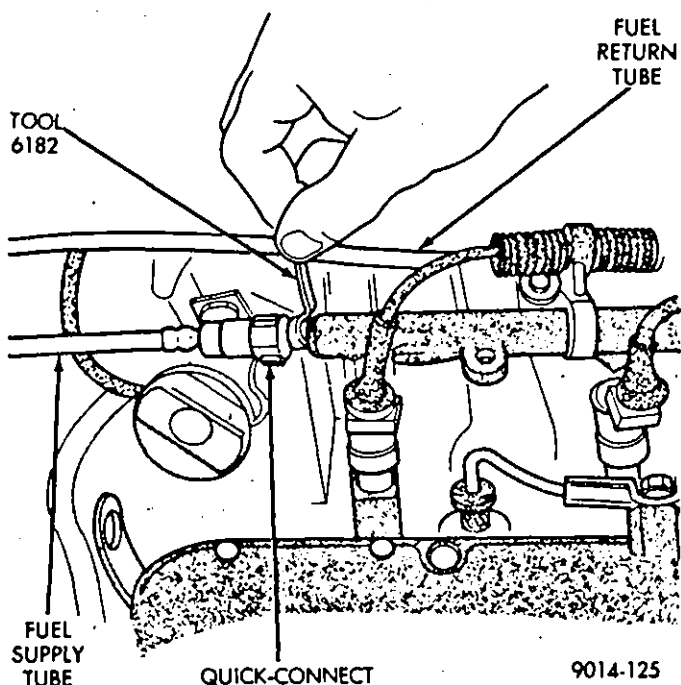

Fig. 16—Fuel Tube to Fuel Rail Quick-Disconnect Tool—3.0L Engine
Fuel tube disconnect tool 6182 can be used at the 3.0L engine fuel rail and fuel pressure regulator to remove the quick-connect fitting and retainer as an assembly (Fig. 16). The retainer will remain in the fitting in the correct position. To install the fuel tube, push it over the nipple until a click is heard. Pull back on the tube to ensure that the connector is locked in place.
(1) Disconnect fuel return tube from fuel pressure regulator using tool 6182 (Fig. 16). Slide the tool over the nipple and push the tool into the connector until it stops on the casing. Slowly pull the connector away.